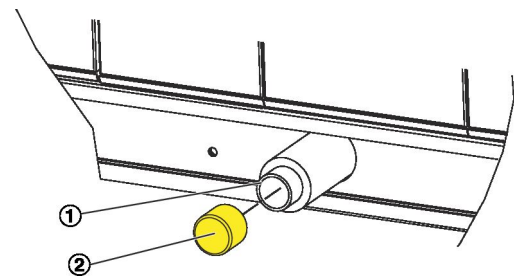

Fig. 28: Condensate drain
2. ▶ Remove the protective cap ( Fig. 28 /2) from each drain ( Fig. 28 /1) of the condensate drip tray.
4. ▶ Connect a drain trap to each condensate drain ( Fig. 28 /1).